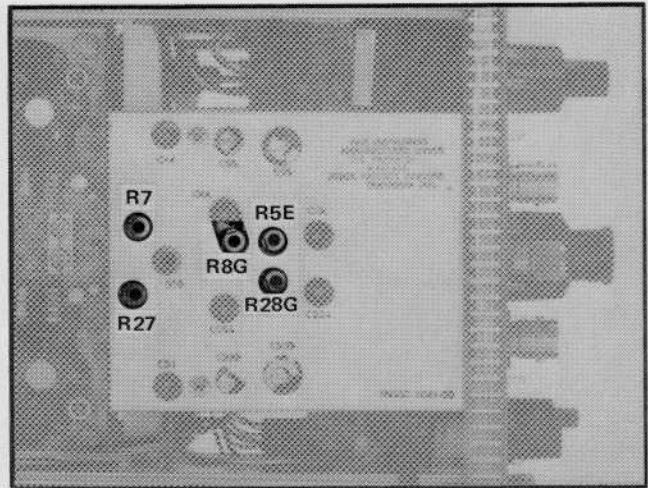

Fig. 5-10. Attenuator board adjustment locations used in the DC Input Resistance and Attenuator Ratio Adjustments procedure.
h. ADJUST—If trace shift exceeds ± 0.3 division, leave the +INPUT Mode switch in the DC position and adjust R8G (see Fig. 5-10) so that the trace is within the given tolerance. Recheck for no trace shift as the +INPUT switch is set from Vc to DC. If necessary, readjust R8G.
i. ADJUST—If a null reading is not obtained, adjust R7 (see Fig. 5-10) for a null indication on the Precision DC Voltmeter.
g. ADJUST—If the tolerance is exceeded, leave the +INPUT Mode switch in the DC position and adjust R5E (see Fig. 5-10) for minimum trace shift.
g. ADJUST—If trace shift exceeds ± 0.3 division, leave the -INPUT Mode switch at DC and adjust R28G (see Fig. 5-10) for minimum trace shift.
- j. ADJUST—If a null reading is not obtained, adjust R27 (see Fig. 5-10) for a null indication on the Precision DC Voltmeter.